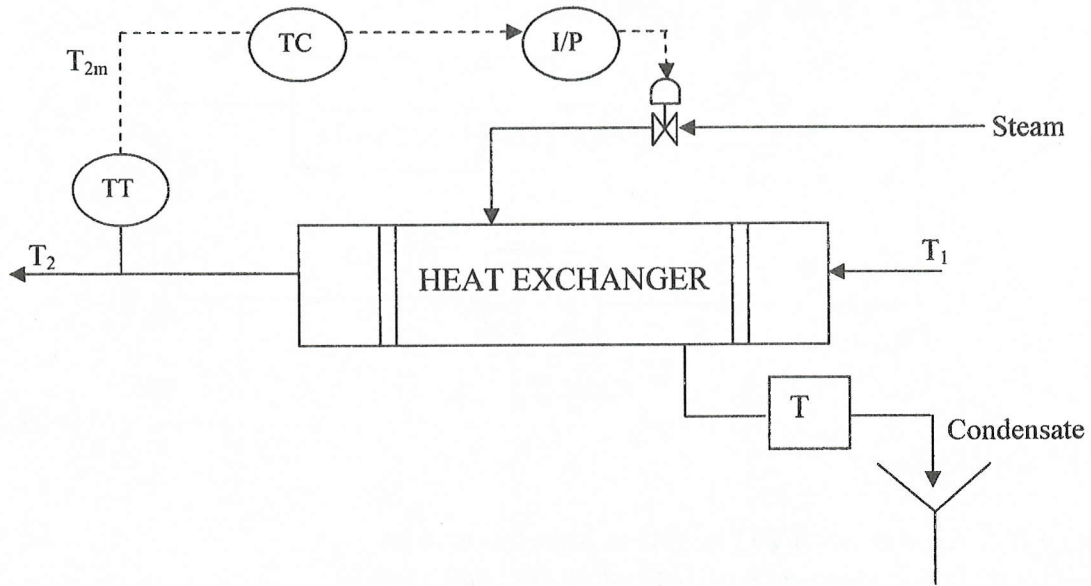

Figure Q. 5 : Shell and tube heat exchanger
5. A process stream is heated using a shell and tube heat exchanger (Figure Q. 5). The exit temperature is controlled by adjusting steam control valve.